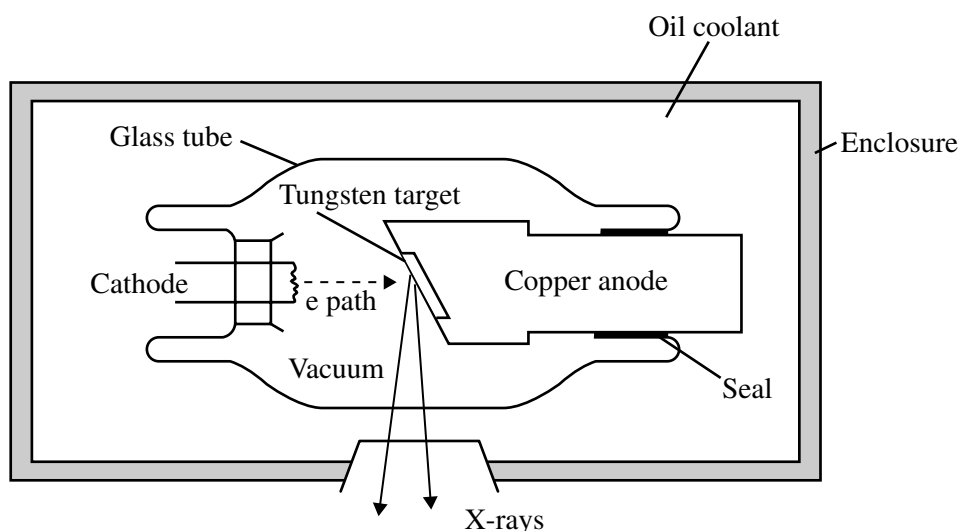

Fig. 5.1
Fig. 5.1 shows a labelled diagram of a stationary anode tube immersed in oil coolant within its housing enclosure.
(b) (i) An electron current of 75.0 mA strikes the anode of the X-ray tube shown in Fig. 5.1 for a time of 1.50 s. Estimate the number of these electrons which generate X-rays (line 2).
(c) The tube of **Fig. 5.1** has been operating for a period of time and the tungsten target in the anode has reached a high temperature. You are to consider how the heat at the hot end of the anode may be removed (*line 6*). For example, it could be stated that some of the energy is radiated (by electromagnetic waves) away from the anode through the vacuum to the glass of the tube. However, your task is to consider **Fig. 5.1** carefully, then identify and state the direction of heat flow in two instances in the fixed anode tube where the process of conduction is used to transfer heat energy. You will then identify and state the direction of heat flow in one instance of convection for the tube.
- (d) (i) In **Fig. 5.1**, the copper anode at the end where there is a seal with the glass has a diameter of 48.5 mm at 0 °C. The internal diameter of the glass at the seal is also 48.5 mm at 0 °C. Differential expansion occurs between the copper anode and the glass, i.e. the copper and the glass expand by different amounts for any temperature change.